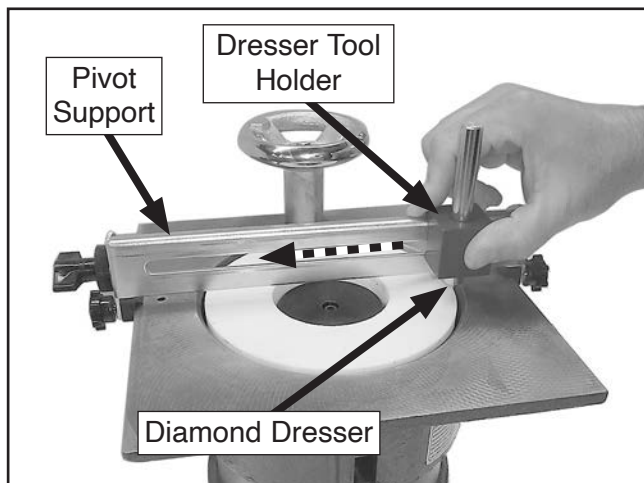

Figure 31. Diamond dresser mounted on pivot support above grinding wheel.
3. Attach pivot support (see **Figure 31**) to table (see **Mounting Pivot Support** on **Page 18**).
4. Place dresser tool holder on pivot support, as shown in **Figure 31**, insert diamond dresser into holder until tip makes contact with wheel, then tighten set screw in holder to secure dresser tool.